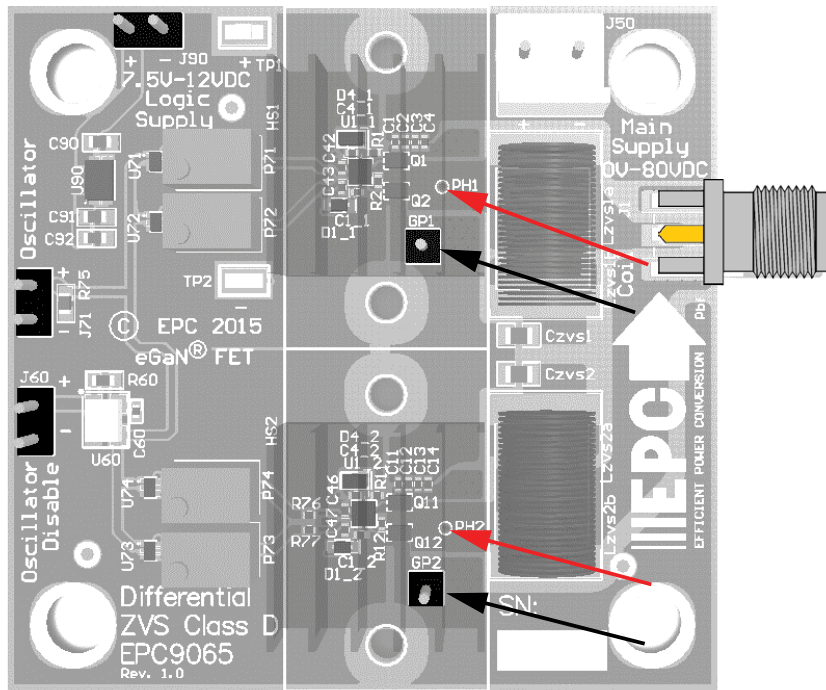

Figure 3: Proper measurement of the switch nodes
2. Connect a LOW capacitance oscilloscope probe to the probe-hole of the half-bridge to be set and lean it against the ground post as shown in figure 3.
**NOTE.** When measuring the high frequency content switch-node (Source Coil Voltage), care must be taken to avoid long ground leads. An oscilloscope probe connection (preferred method) has been built into the board to simplify the measurement of the Source Coil Voltage (shown in figure 3).